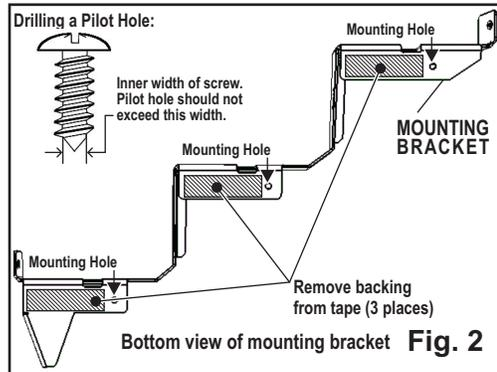

Fig. 2
1. Using isopropyl alcohol wipes (included), clean the vehicle where it will come in contact with the adhesive tape that hold the brackets then prime those areas with the supplied 3M Keel Primer (Fig. 2).
5. Drill a 3/8" wire passage hole in the approximate location shown in figure 2. It is recommended you install a rubber grommet (customer supplied) in the wire passage hole to protect the wires. Feed the wire harness into the wire hole and apply RTV sealer around the hole when the harness is in position.